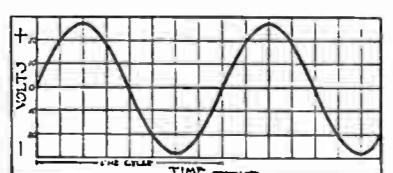

Fig. 2
In radio we deal not only with continuous and pulsating direct currents but with currents which are periodically changing in direction. Such a current will start from zero, build up to a maximum value, reduce to zero, build up to maximum in the opposite direction, and reduce to zero again, repeating this cycle of operations many times each second (Fig. 2). A current periodically reversing or alternating its direction of flow is called an "alternating current", abbreviated "a. c." or "A. C."
3. Draw a curve such as that shown in Figure 2, representing an alternating current. Now draw a similar curve showing the direction and magnitude of a transformer secondary current corresponding to the above primary current.